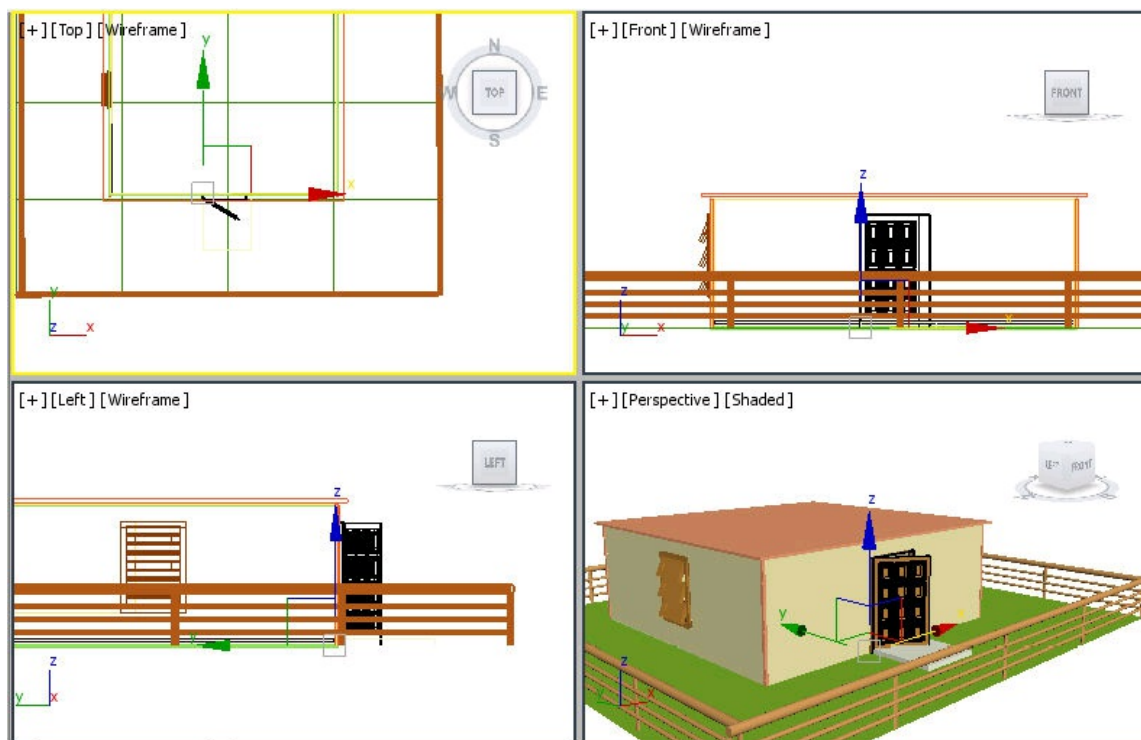

Figure 4-83 The door geometry in viewports after alignment
9. Align *door* in all viewports, as shown in Figure 4-83.